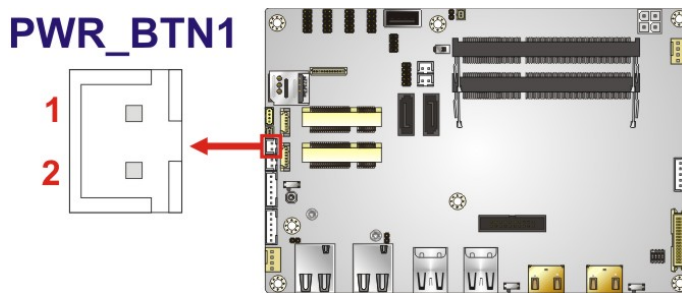

Figure 3-17: Power Button Connector Location
- CN Location:** See **Figure 3-17**